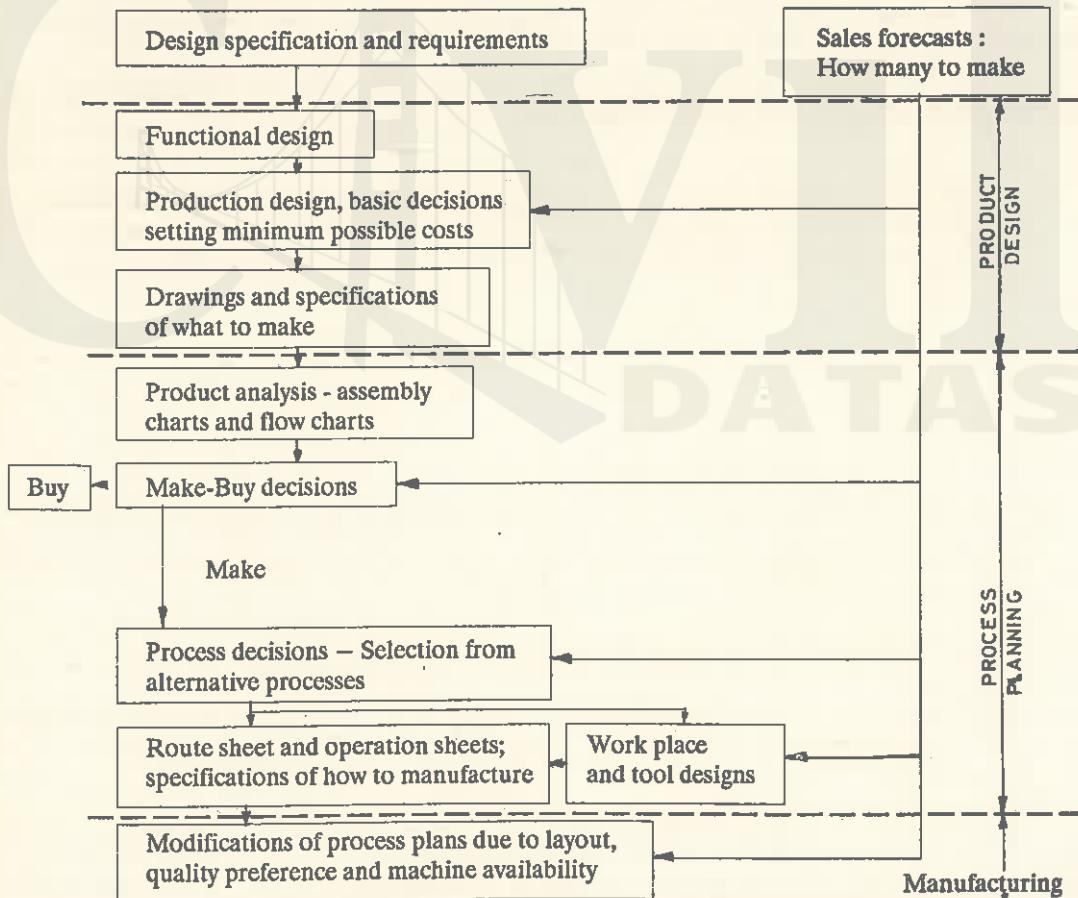

Fig. 6.1. Overall development of processing plans.
- Process planning is an intermediate stage between designing the product and manufacturing it (Fig. 6.1).